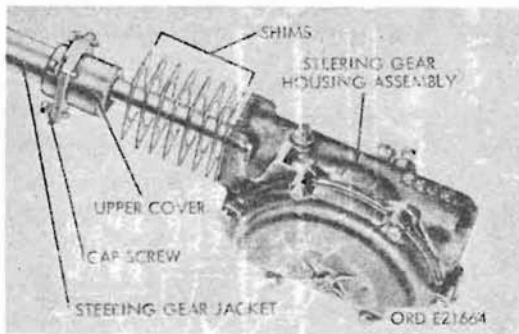

Figure 220. Steering gear end play adjustment.
b. Steering Gear (Fig. 220). The steering gear is helical cam and lever-type. The pitman arm shaft, extending from the steering gear housing assembly, is mounted at the right angles to the steering gearshaft. The studs, mounted on the pitman arm shaft lever, engage the machined helix of the cam on the end of the steering gearshaft in the gear housing. The gear housing is bolted to the side frame of the truck. The steering gearshaft is enclosed in the jacket which is joined to the gear housing by a flanged cover. The jacket and housing are watertight.
a. End Play Adjustment (Fig. 220).